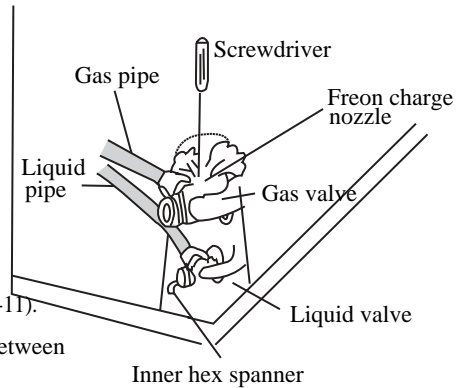

Fig. 11-11
- Turn on core valve of both liquid and gas valve completely (as shown in fig. 11-11).